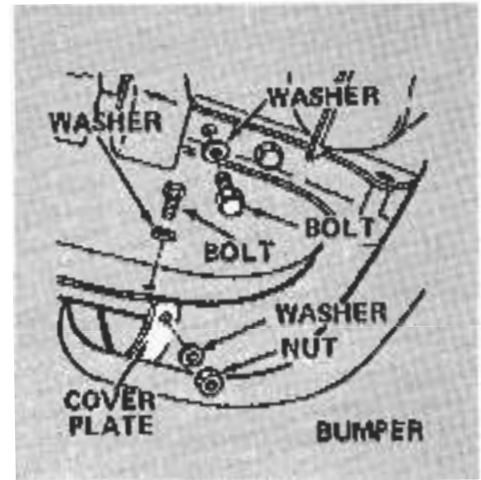

Fig. 3-7. Nuts and bolts that hold rear bumper.
1. Remove the bolts and nuts at both sides of the vehicle that hold the cover plate to the body (Fig. 3-7).